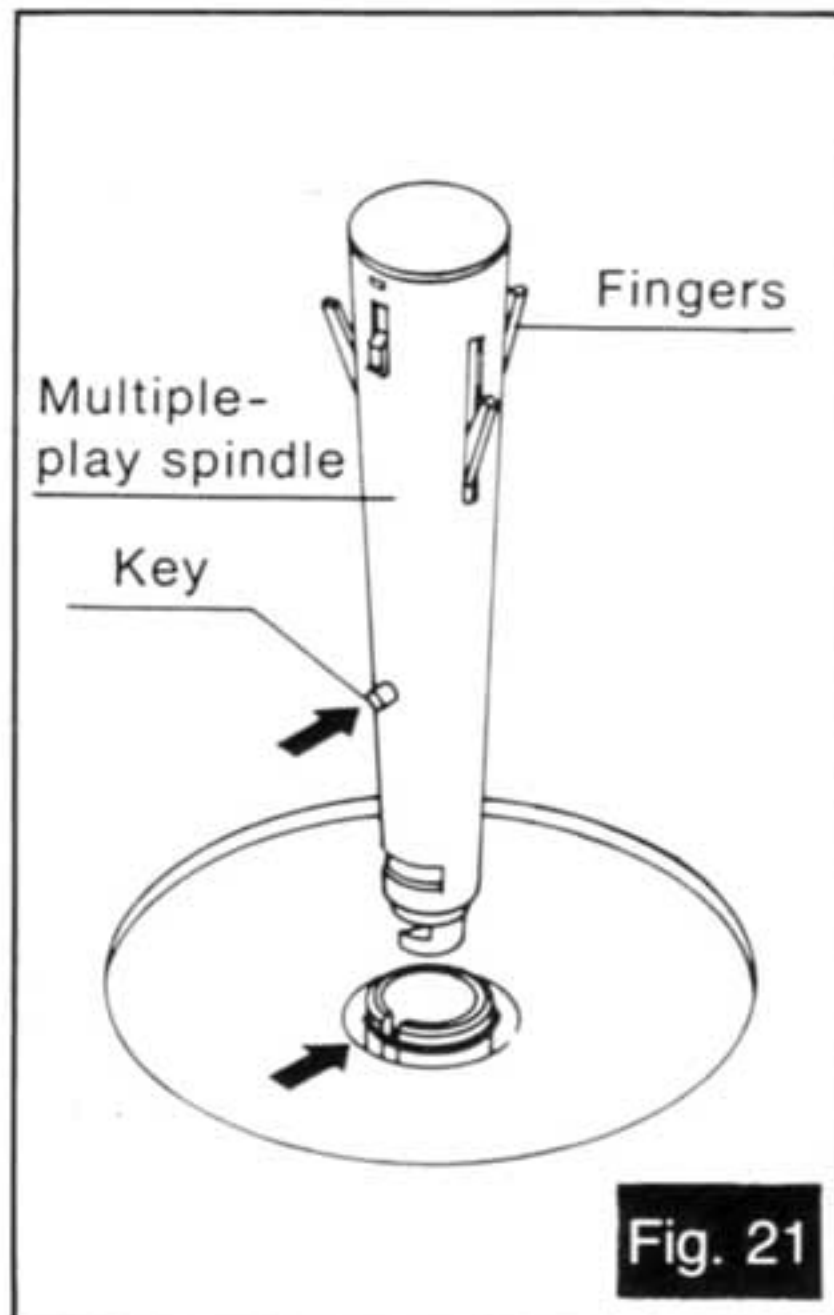

Fig. 21
- 1 Insert the multiple-play spindle, aligning the key at its base with the slot of the center spindle. (See Figs. 21 and 22.) Then, pushing downward, rotate the spindle clockwise until it stops.